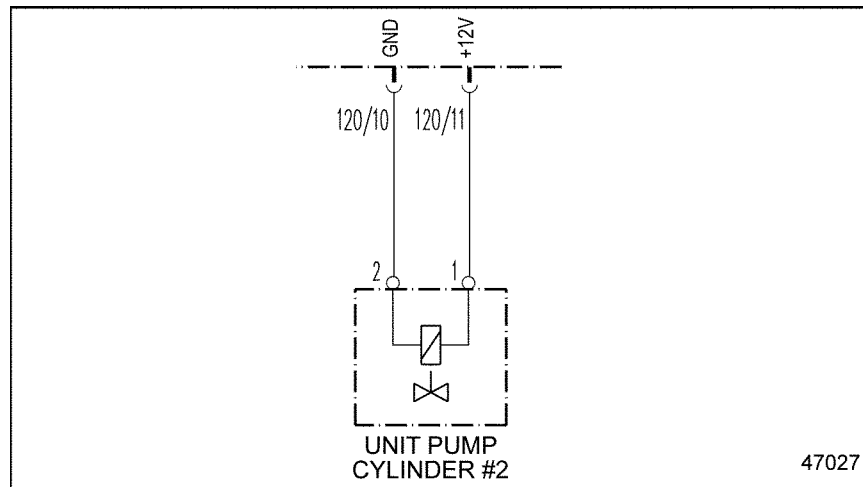

Figure 45-2 Electronic Unit Pump #2
3. Disconnect pins 1 and 2 of Electronic Unit Pump #2. See Figure 45-2.